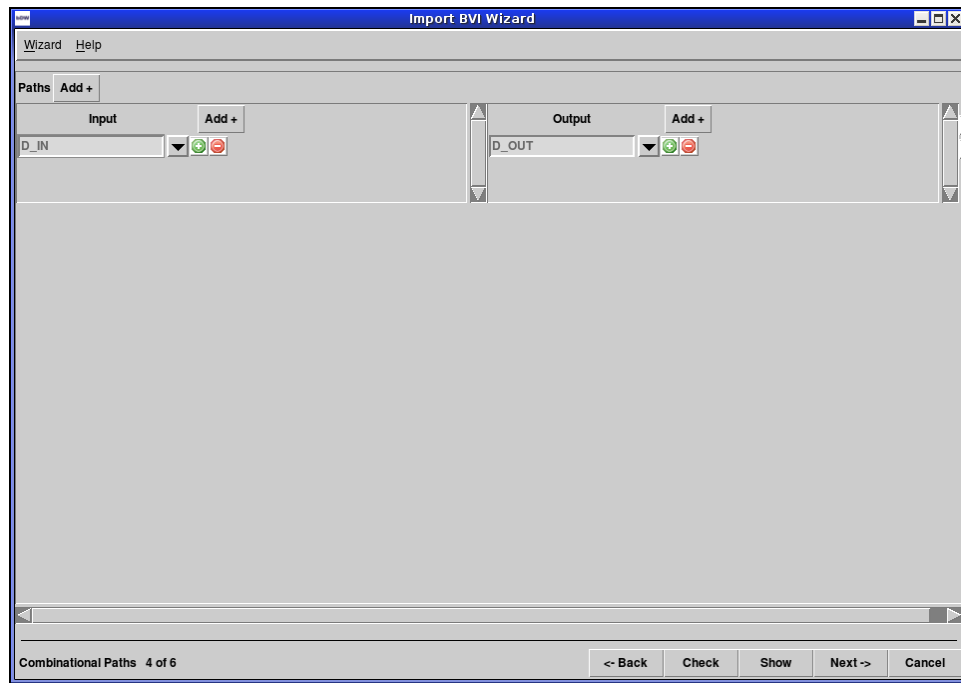

Figure 31: Step 4: Combinational Paths
Step 4 of the wizard, shown in Figure 31, defines the **path** statements. A **path** statement indicates a combinational path from the first port to the second port. The compiler assumes there will be a path from the input parameters of a **value** or an **ActionValue** method to its result, so these need not be explicitly specified.